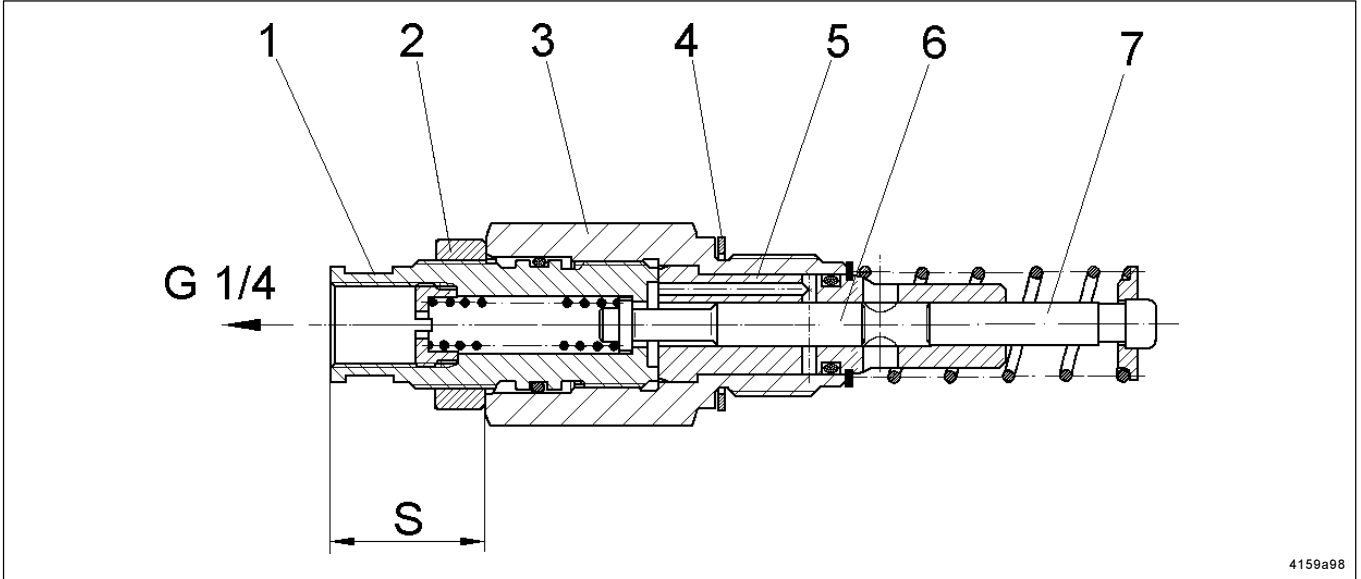

Fig. 10 - Sectional view: adjustable element
- Loosen counter nut (2, Fig. 10) while holding in position pump element body (3) by means of a second wrench.
- Change the position of the adjusting spindle (1) by means of a wrench.
- The dimension „S“ (see Fig. 10) for the desired lubricant output can be ascertained by using the delivery diagram shown in Fig. 11.
- Unscrew the adjusting spindle (1, Fig 10) from the pump element body (3) until „S“ is approx. 30 mm.
- Screw counter nut (2) onto stop collar of the adjusting spindle (1)
- Screw adjusting spindle (1) with counter nut (2) into pump element body (3) until stop.